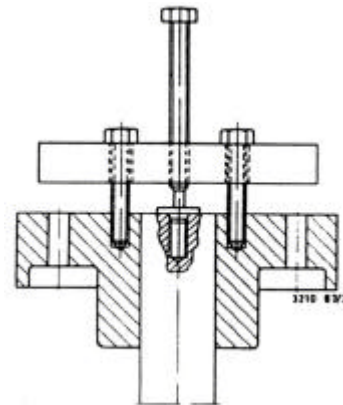

Fig.23 – Pulling off the coupling
2. Unscrew fillister head screw on the pump end coupling hub, and pull the coupling off with the aid of an extractor, from drive shaft (213) (see Fig. 23). Check